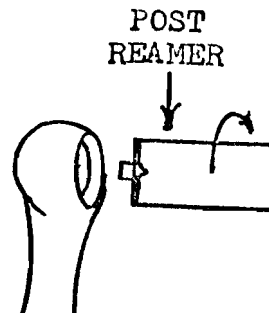

Figure 50
3. Insert the reamer in the pivot screw socket (Figure 50).